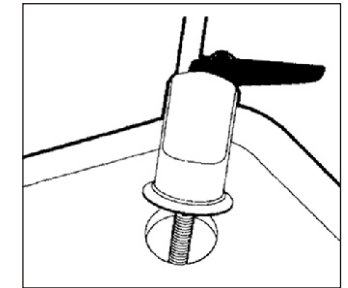

Figure 15.
- 2.4.1 Quick connecting pipe: The machine totally adopt quick connecting fitting. All you have to do is to insert the PE pipe and connect with quick fitting, but it should be inserted to the bottom of connector in order to prevent leakage. (As shown in Figure 15)